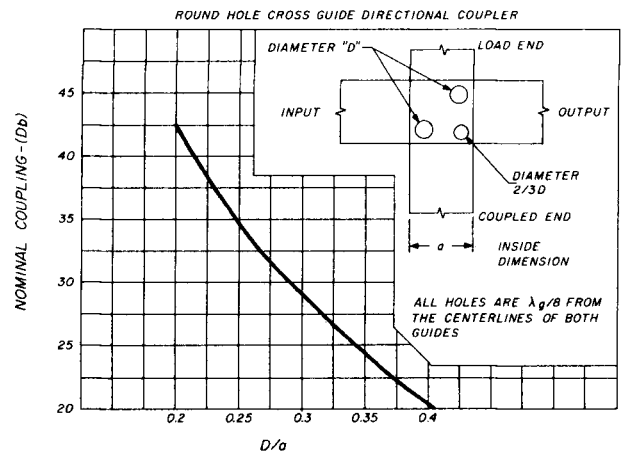

fig. 2. Graph of the relationship between the coupling factor and the physical dimensions of the waveguide and coupling holes.
The practical range of coupling in a round hole cross-guide coupler varies between 20 and 45 dB down from the incident power. Fig. 2 shows the hole arrangement relative to the coupler ports; also shown is a graph of how the coupling varies as ratio of hole diameter to guide width.^{2,3}
2. First, the center of the 10.0 to 10.5 GHz Amateur band is 10.25 GHz. Since the bandwidth of the round hole cross-guide coupler is approximately 10 per cent, the coupling coefficient should not change more than a few per cent in the 10.0 to 10.5 GHz band. The second step is to decide on the desired coupling ratio. Sources such as reflex klystrons and Gunn diodes, which have an output power in the 10 to 20 mW range, require a sampling coupler to have a coupling ratio of 25 dB or greater. This will keep the power level into the detector in the square-law region. Referring to the graph in fig. 2, the D/a ratio for 26 dB is 0.335, where a is the broad dimension of the waveguide. For WR-90 waveguide (i.e., X-band guide), the broad dimension, a , is 22.86 mm (0.900 inch). The large hole diameter is: